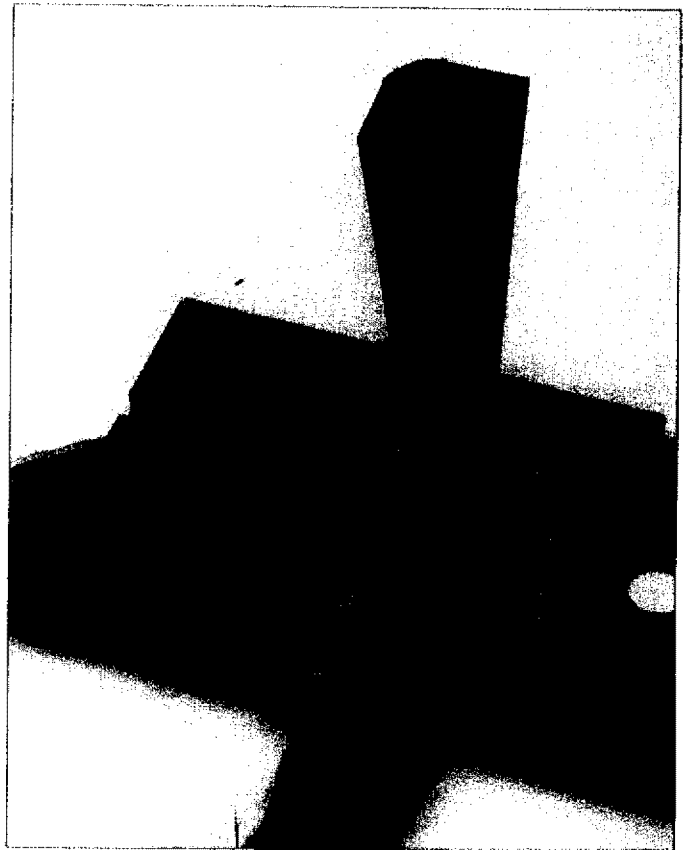

FIGURE 1
1. To assemble the EXTENSIONS and LEGS to ROUTER TABLE, place table, top side down, on a smooth, flat surface, and position the LEGS and EXTENSIONS relative to the TABLE as shown in Figure 1. Insert the #10-32 x  $\frac{1}{2}$ " screw through the LEG and install lock washer and nut. This is to be done for each table leg.